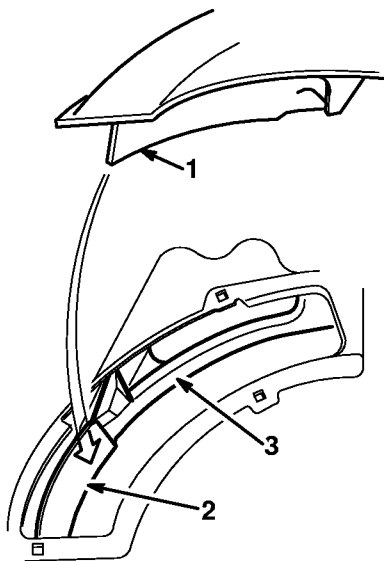

Figure 37
4. Place front corner of chute baffle into deck opening. Rotate chute counterclockwise and push down into deck opening (Fig. 37 & 38).